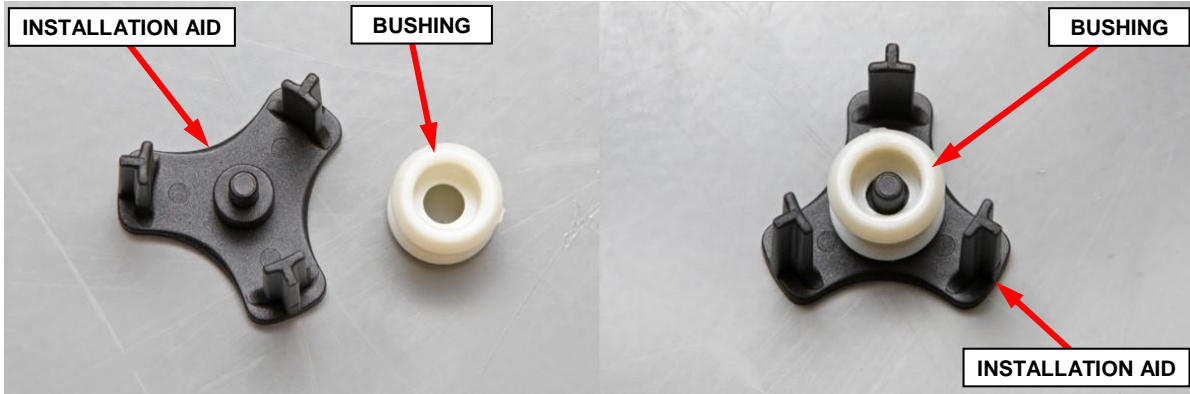

Figure 15 – New Bushing and Installation Aid
10. Install the NEW bushing onto the center pin of the installation aid (Figure 15).